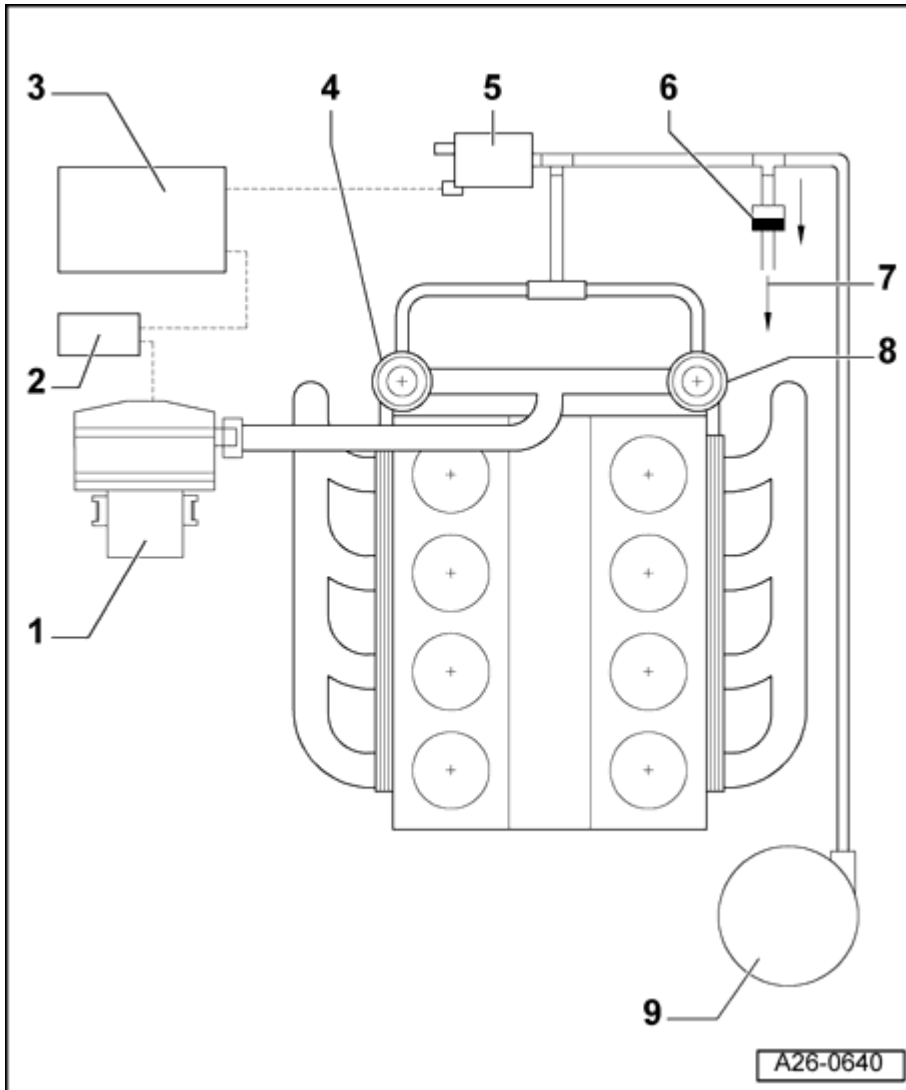

Fig. 560: Secondary Air Injection (AIR), Component Overview
- Installed location: Arrow points in direction of flow, as shown in **Fig. 560**.